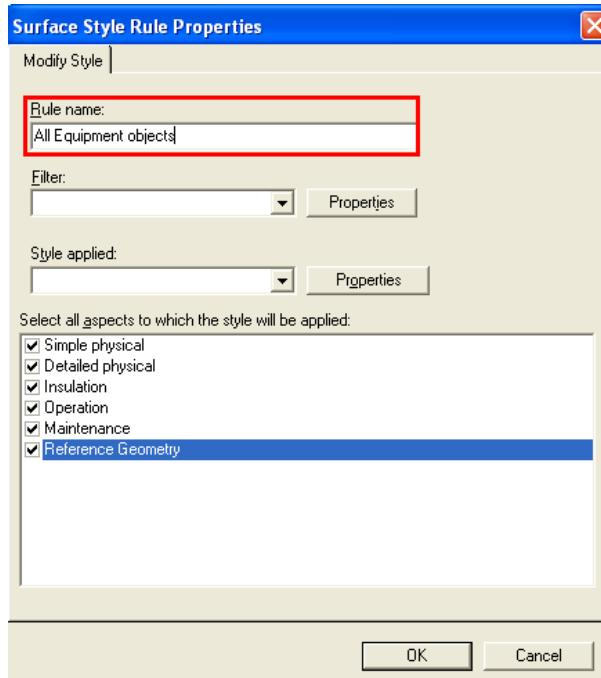

Figure 5: Specifying Rule Name on the Surface Style Rule Properties Dialog Box
4. The **Surface Style Rules Properties** dialog box appears. It contains fields to define the rule name, filter, the applied style, and the geometric aspects of the object to which the style is applied. Type **All Equipment objects** in the **Rule name** box as shown in Figure 5.